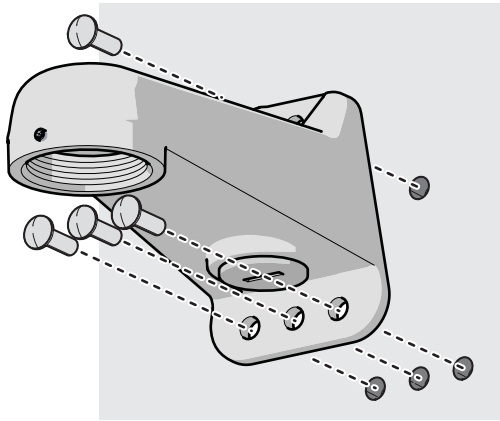

Figure 1. Installing the Wall Mount
7. Use a minimum of two 1/4-inch fasteners of appropriate type (not supplied) to secure the wall mount to the mounting surface (refer to Figure 1).